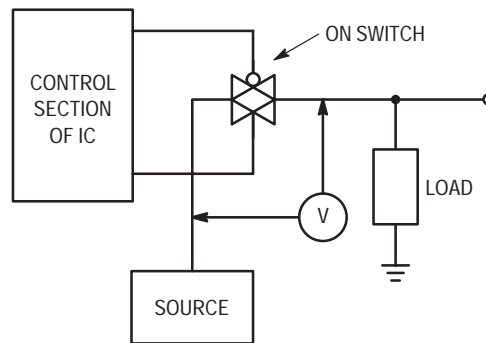

Figure 14. ΔV Across Switch
5. For voltage drops across the switch (ΔV_{switch}) > 600 mV (> 300 mV at high temperature), excessive V_{DD} current may be drawn; i.e., the current out of the switch may contain both V_{DD} and switch input components. The reliability of the device will be unaffected unless the Maximum Ratings are exceeded. (See first page of this data sheet.) Reference Figure 14.